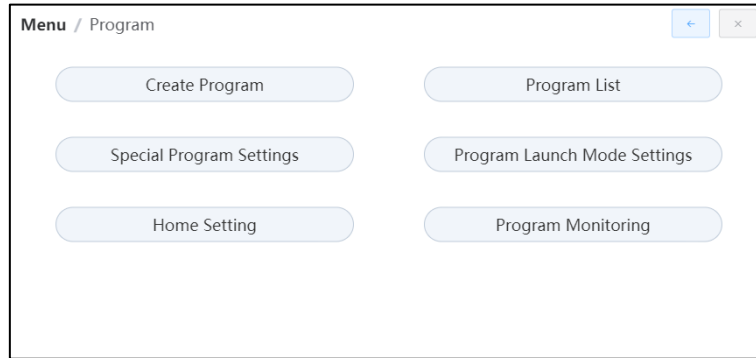
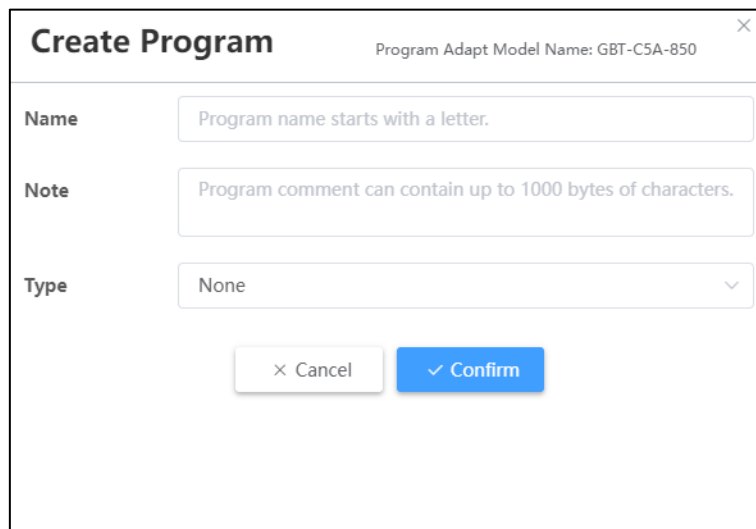

Fig. 4.1 Program Menu Interface
Fig. 4.2 Create Program Window
1. Click "Menu Button" → "Program" to enter the interface as shown in Fig. 4.1. Click "Create Program", and a new program interface will pop up as shown in Fig. 4.2. After filling in program name and comments and selecting the program type on this interface, click "Confirm" to complete the program creation.
2. In the second way, click "Menu Button" → "Program" → "Program List" to enter the interface as shown in Fig. 4.3. Click "New Program", and an interface will pop up as shown in Fig. 4.2. After filling in program name and comments and selecting the program type on this interface, click "Confirm" to complete the program creation.